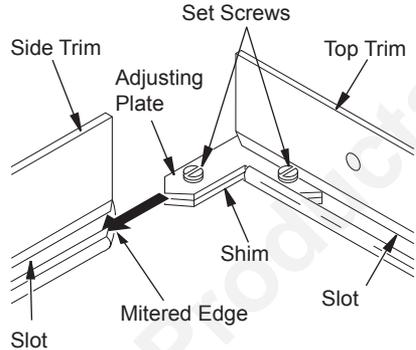

Figure 47 - Assembling Trim
3. Align shim under adjusting plate as shown in Figure 47.
4. Slide one end of adjusting plate/shim in slot on mitered edge of top trim (see Figure 47).
5. Slide other end of adjusting plate/shim in slot on mitered edge of side trim (see Figure 47).